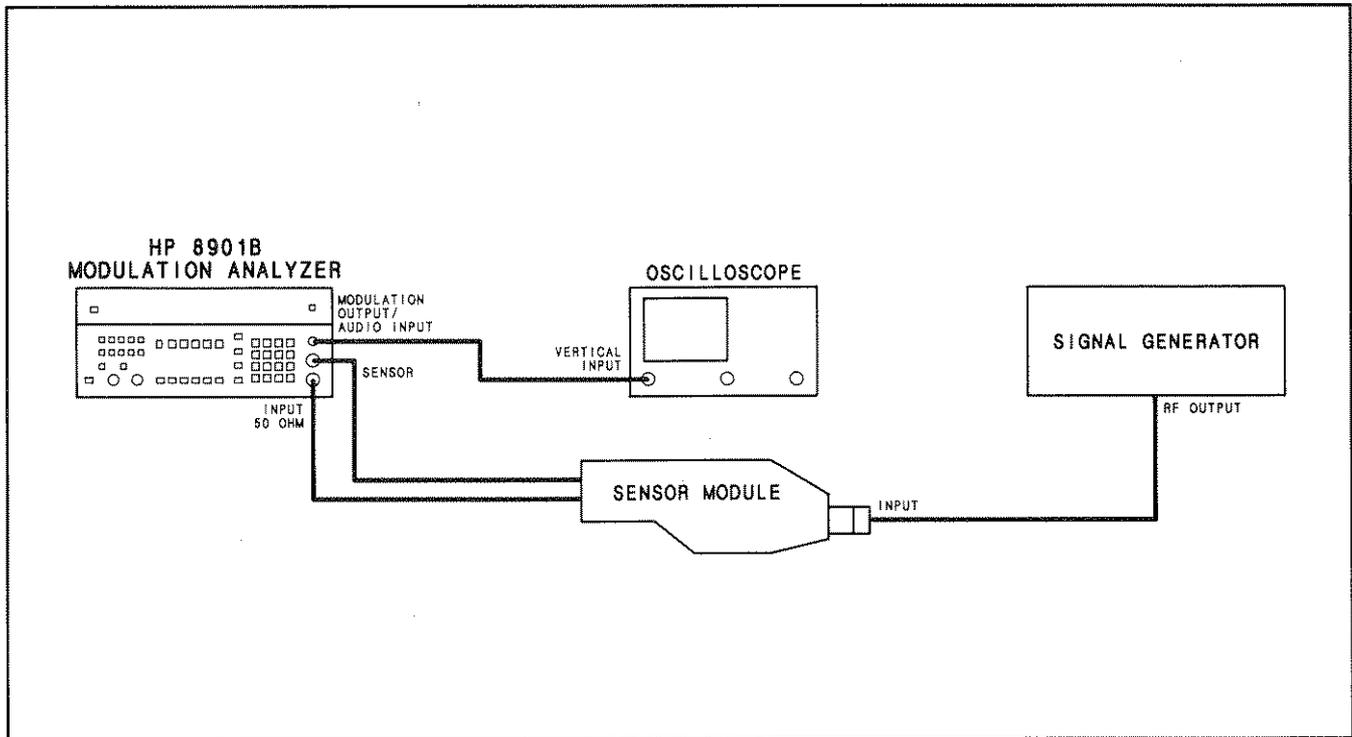

Figure 3-7. RF Power Check Setup
9. Connect the input of the sensor module to the RF output of the signal generator. Connect the MODULATION OUTPUT/AUDIO INPUT to the vertical input of the oscilloscope. (See Figure 3-7.)